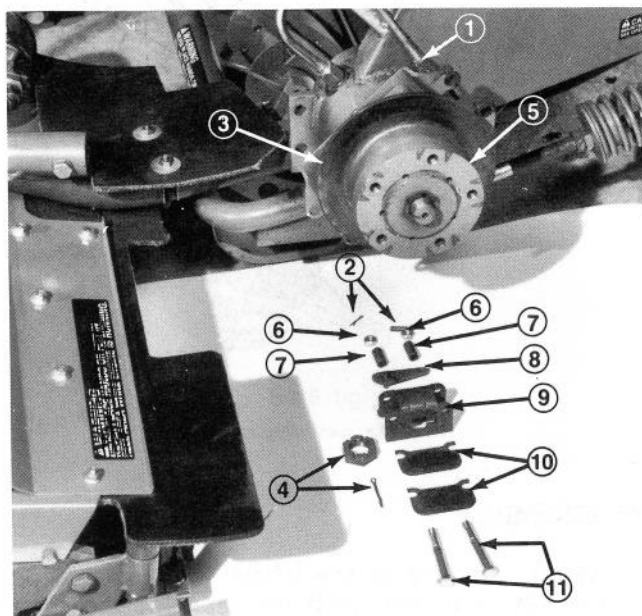
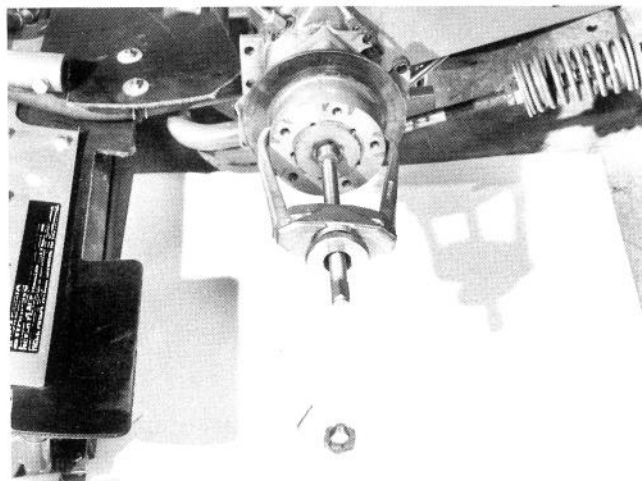

Figure 47
Figure 48
3. Remove clevis pin from actuating lever lock-nuts and capscrews from secondary bracket and remove assembly from brake disc (Fig. 47).
5. If brake disc needs replacement remove large hub mounting nut, (Fig. 47), mount a wheel puller to wheel hub and shaft and remove wheel hub (Fig. 48). Remove the key from the shaft.